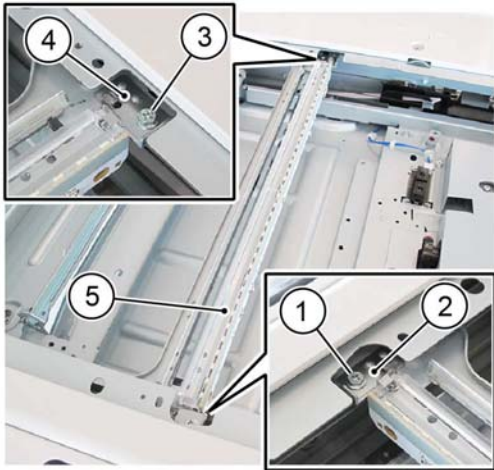

Figure 2 Light guide removal
5. Remove the light guide, Figure 2:
- a. Remove the screw (1).
- b. Remove the spring guide (2).
- c. Remove the screw (3).
- d. Remove the spring guide (4).
- e. Remove the light guide (5).